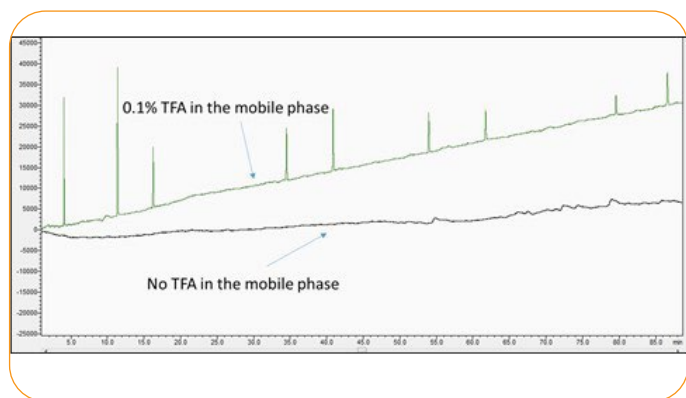

Figure 4: Baseline drift from acidic modifiers in the mobile phase
- **Baseline Drift:** Negative or positive drift in the baseline is usually caused by absorbance differences caused by concentration changes in one or both components of the mobile phase in a gradient run. If drift occurs, an additive may need to be added to the mobile phase modifier or a different buffer or additive may need to be used. If that does not solve the problem, the detection wavelength may need to be changed. For example, a gradient separation with trifluoroacetic acid (TFA) only in mobile phase B (ACN) is compared to a separation in which no TFA used in mobile phase A or B (water and ACN, respectively) is shown in Figure 4.